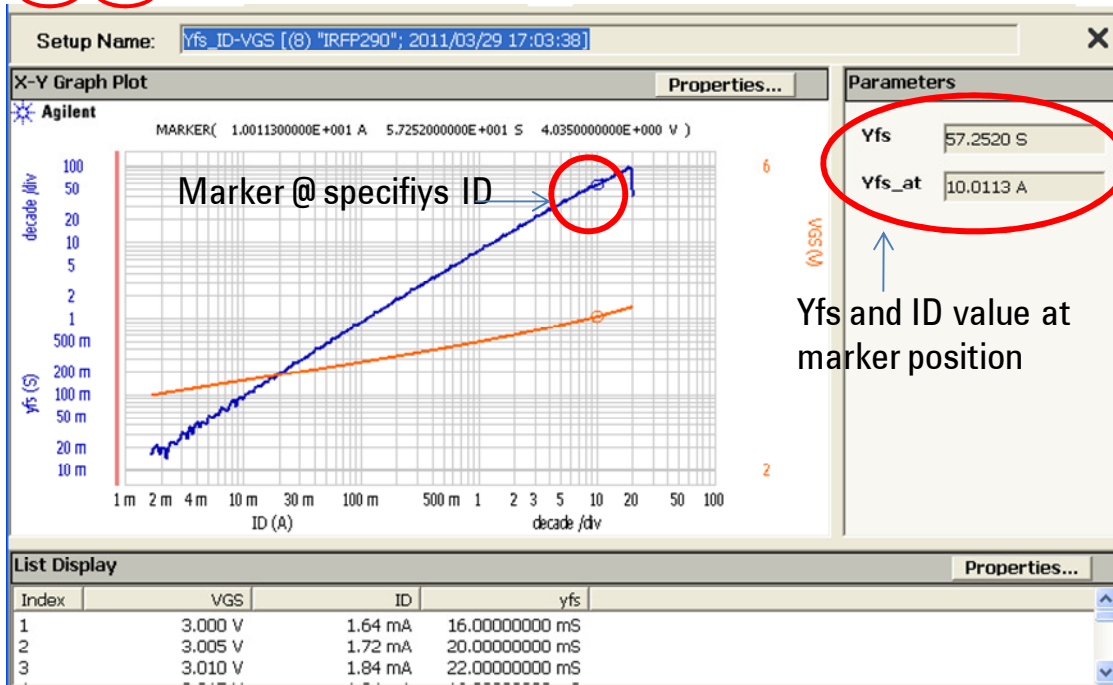

Figure 3-27. Yfs\_ID-VGS Classic Test example for IRFP2907.
Step 20. You can see the yfs-ID curve and VGS (Y2 axis) graph in figure 3-27.